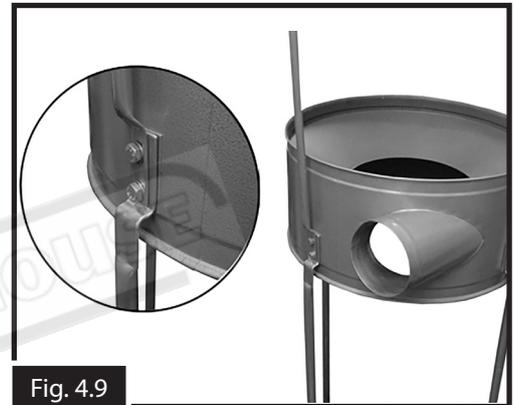

Fig. 4.9
11. The fixing point of the 3rd support is also used to connect the upper bag support. Line up the holes on the upper bag support with those on the separator and separator support. Secure with 2 x M8 x 16 bolts and M8 flat washers. (Fig. 4.9)